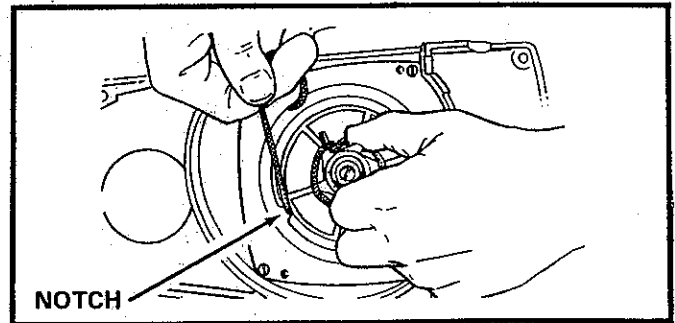

Figure 46
15. Pull out 12 inches of rope and catch the rope in the notch in the pulley. Figure 46.